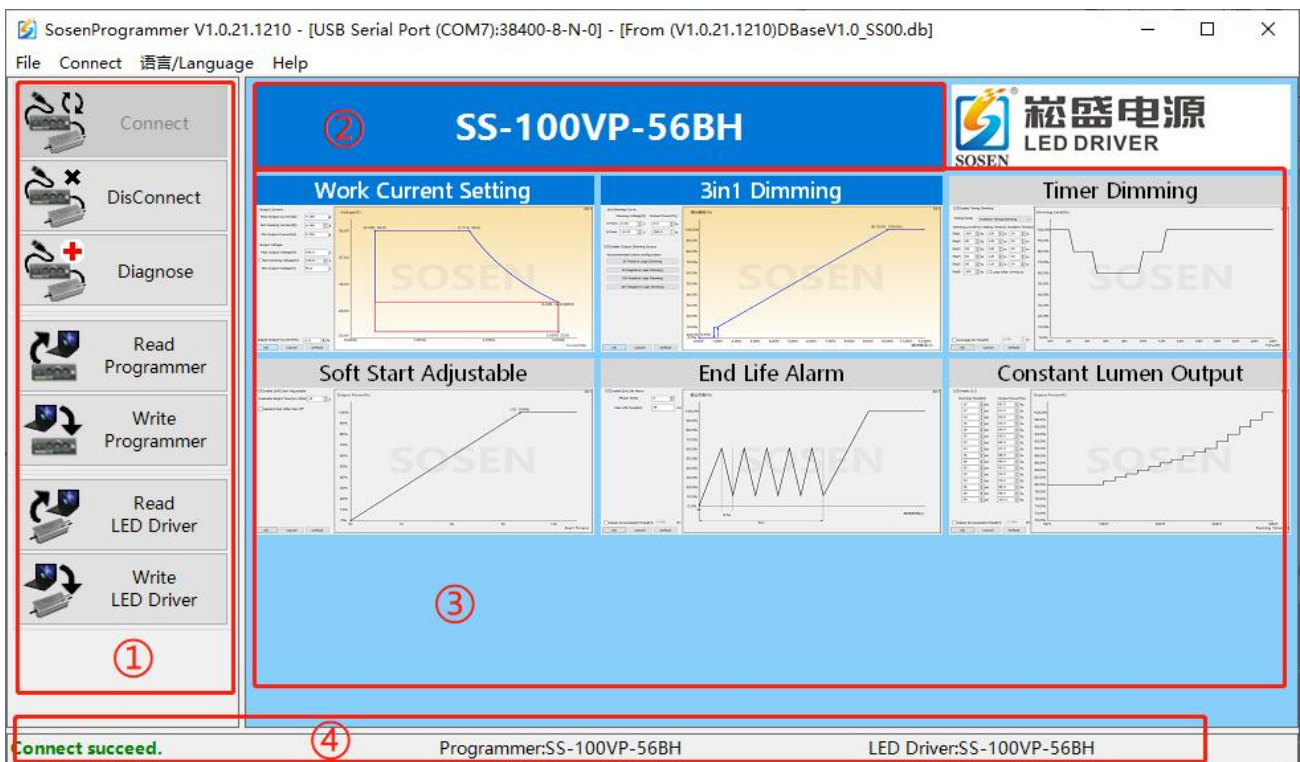

figure 3
(1) Connect, Read LED Driver and Write LED Driver, as shown in Figure 3, at position ① in the block diagram.
Default Values", as shown in Figure 3, click the position ② of the block diagram with the left mouse button, and select the corresponding model.
(2) Modify the data, such as "Work Current Setting", "3in1 Dimming", "Timer Dimming", etc., as shown in Figure 3, at position ③ in the block diagram.
(3) When "Writing LED Driver", please make sure that the selected model is the same as the connected LED driver model (as shown in Figure 3, position ④ in the block diagram), otherwise Programmer will refuse to program and report an error.
The model written in Programmer must be the same as the LED driver model to write successfully, otherwise Programmer will report an error. Check whether the models are the same, as shown in Figure 3, block diagram position ④).